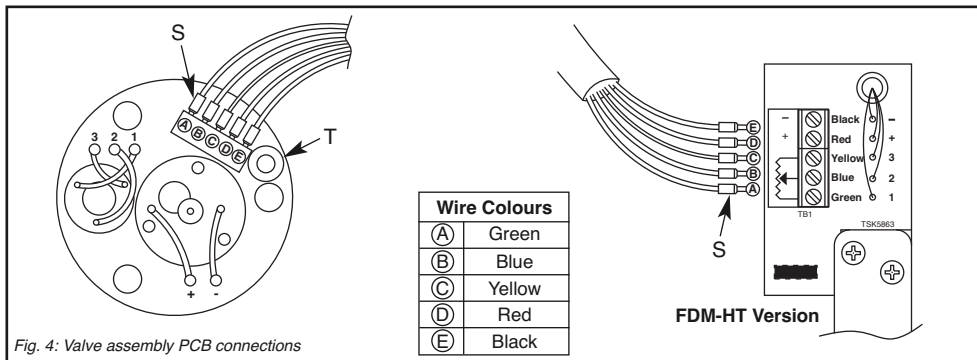

Fig. 4: Valve assembly PCB connections
- Feed the five wires up through the grommet (item T, fig. 4. NOT on the FDM-HT version) and connect the Bootlace Ferrules (S) to the terminal block as per the table in fig. 4.